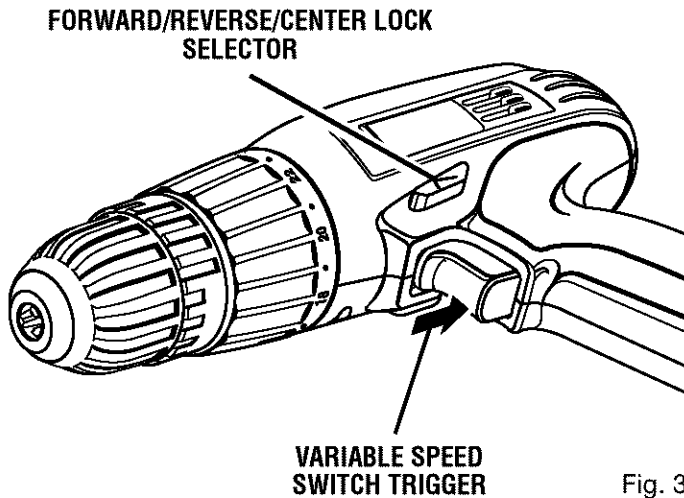

Fig. 3
See Figure 3.
- Lock switch trigger on this drill by placing the direction of rotation selector in center position. See Figure 3.
- Lock switch trigger on your drill by placing the direction of rotation selector in center position. See Figure 3.